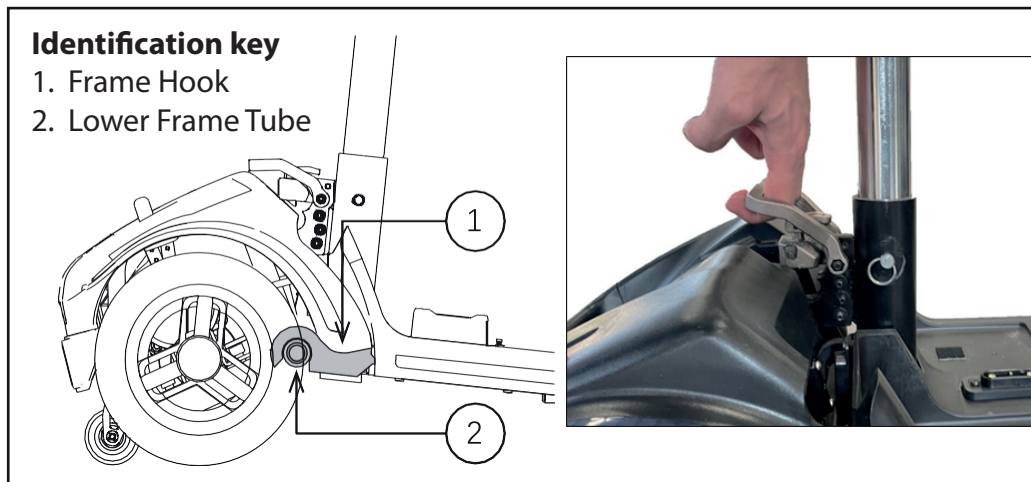

Figure 8. Frame Release Level
ATTENTION – Before attempting assembly, tilt the rear half of the Travel Scooter slightly back on the anti-tip wheels as shown in figure 8.
3. Slowly separate the two parts of the Travel Scooter. See figure 8.
1. Use the front frame release lever to lift the front frame as you align the frame hooks of the front frame with the rear frame tube of the rear frame. See figure 8.
2. Once the frame hooks are over the rear frame tube, lower the front frame and pivot the rear frame simultaneously. This will engage the frame lock-up automatically. See figure 8.